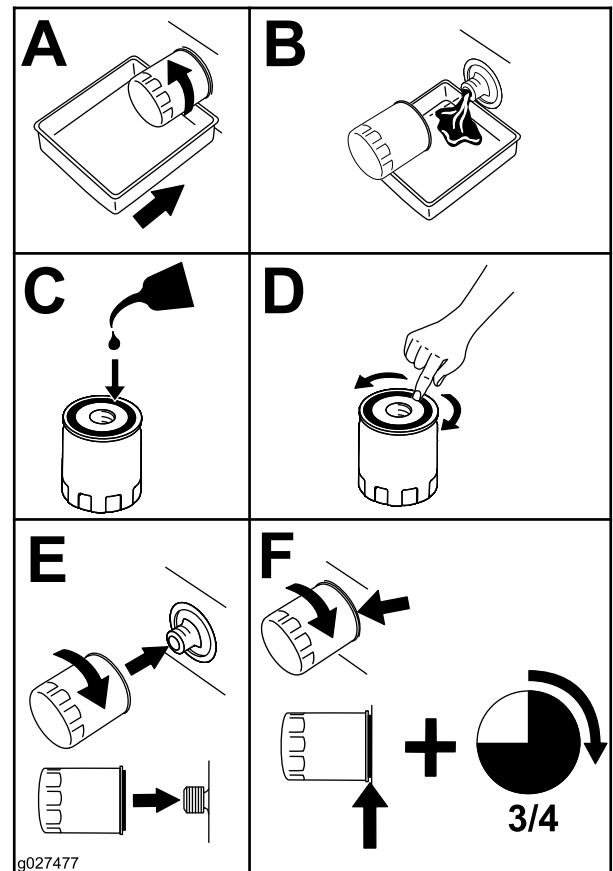

Figure 46
- Change the engine-oil filter (Figure 46).